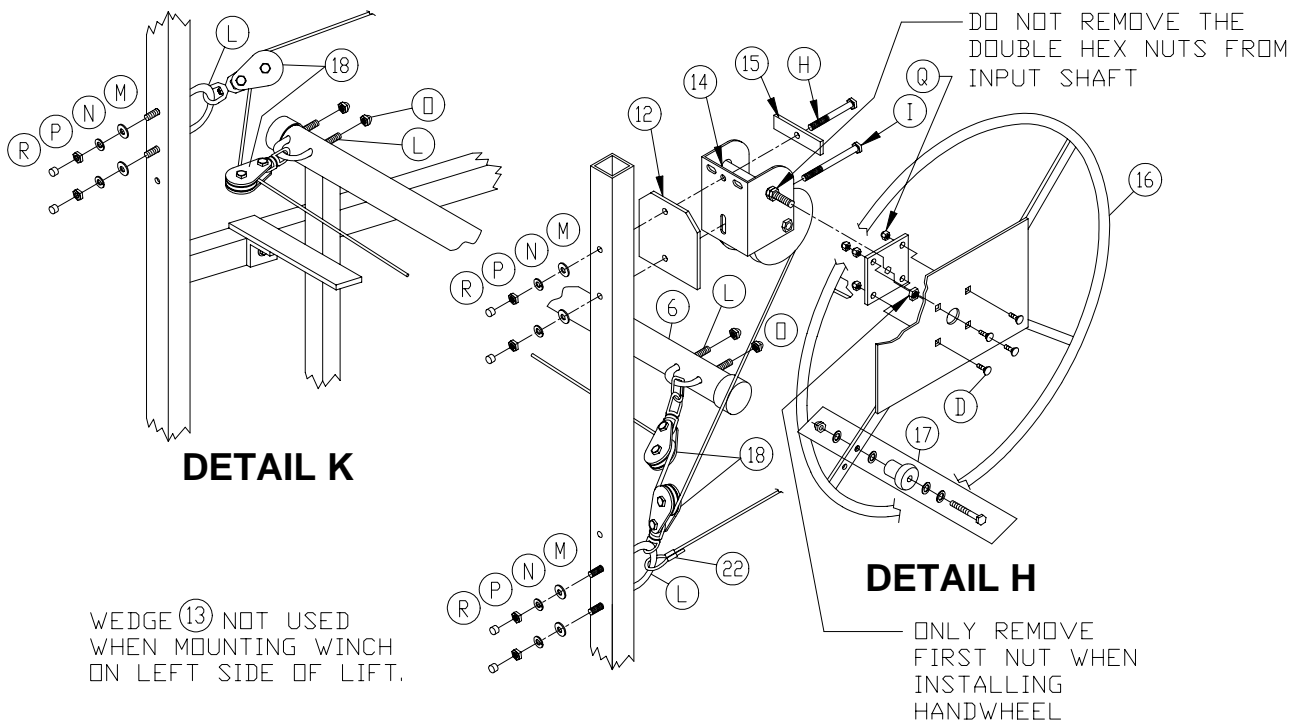
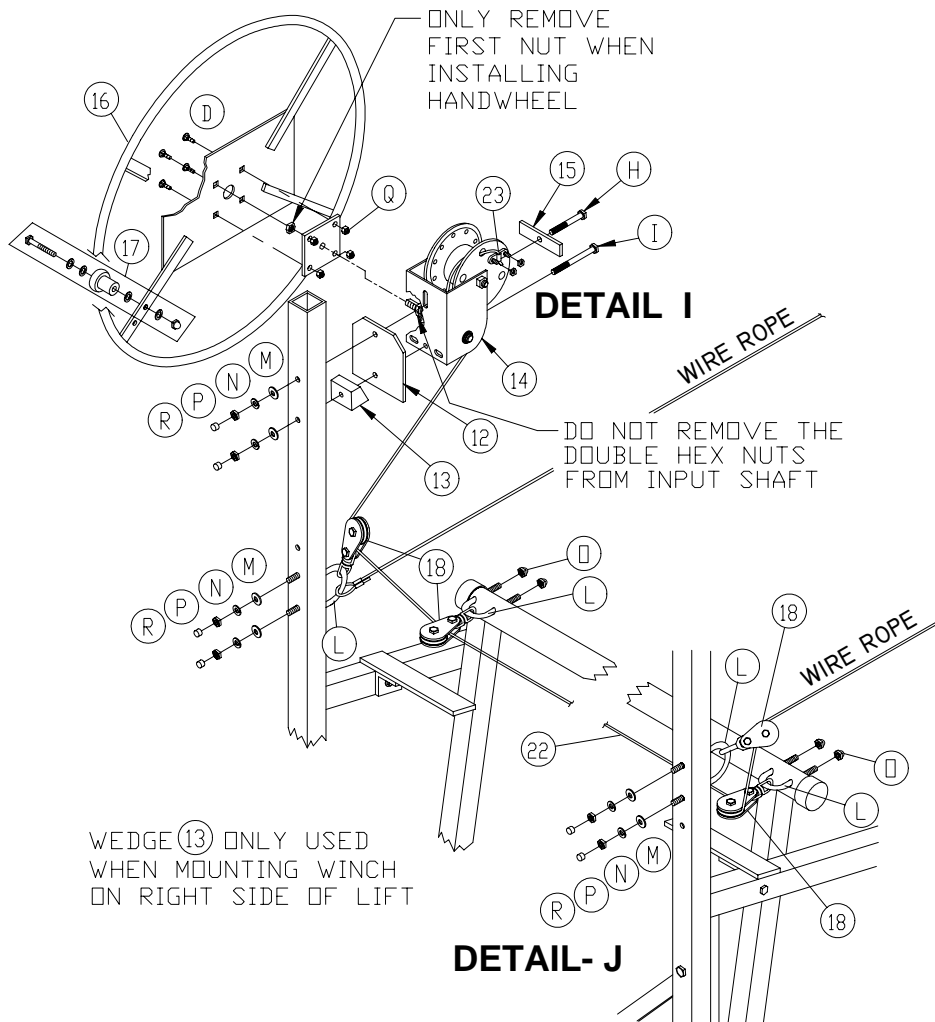
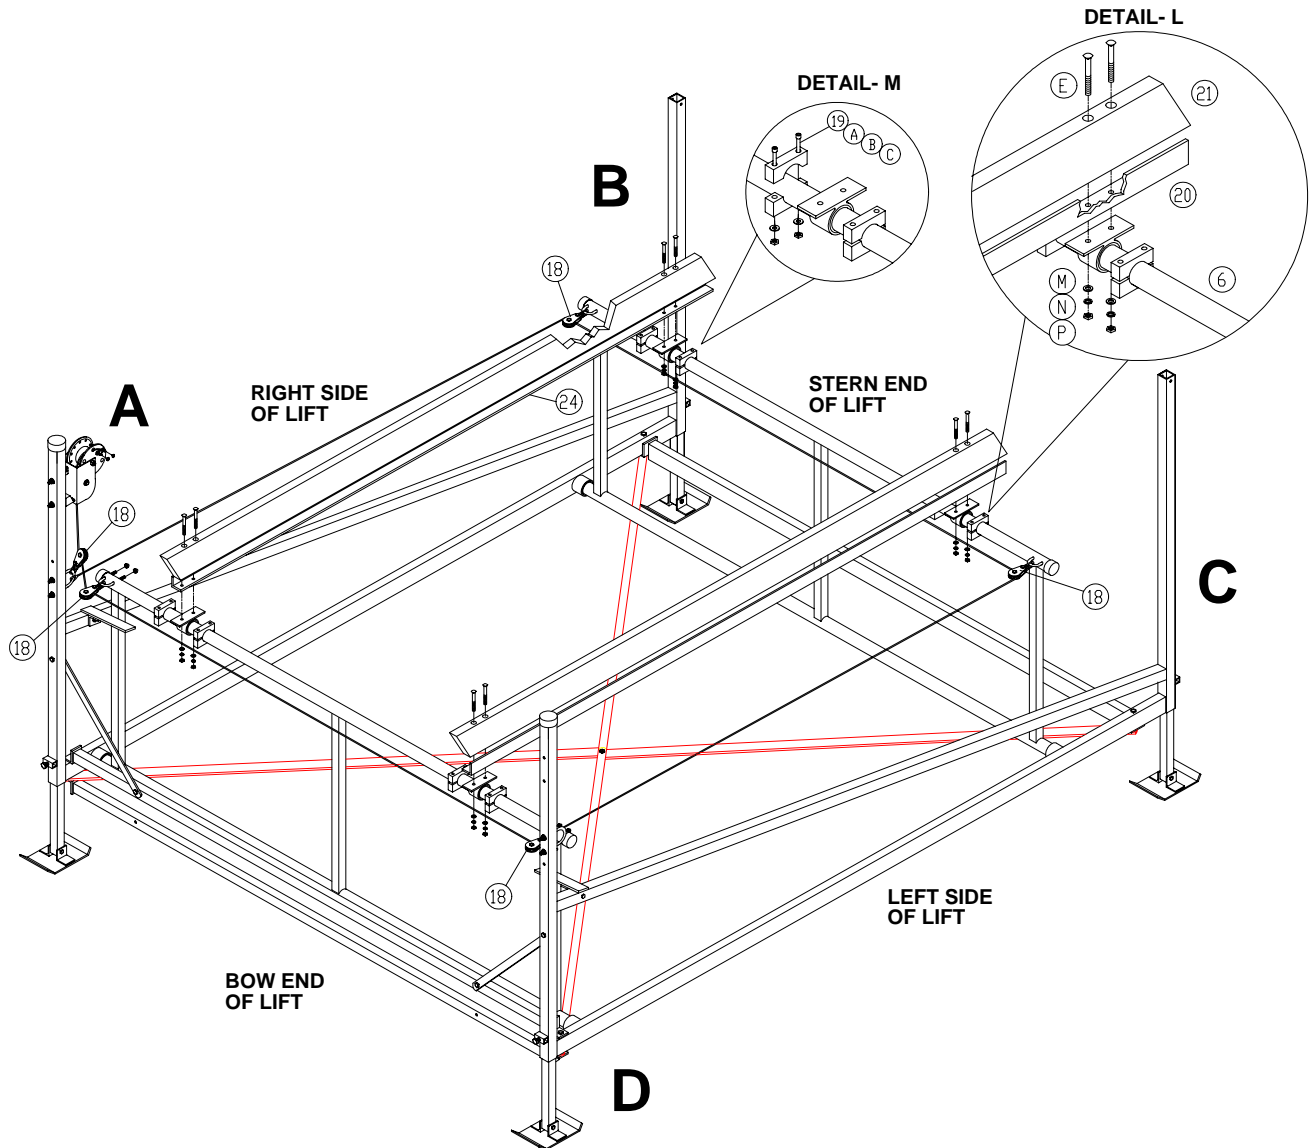

Figure 3-3.
Figure 3-4.
Figure 3-5.
1. Making sure that input shaft is facing towards outside of lift, attach winch to bow end of left side frame assembly as shown in **Figure 3-3**.
1. Making sure that input shaft is facing towards outside of lift, attach winch to bow end of right side frame assembly as shown in **Figure 3-4**.
2. Refer to **Figure 3-3 Detail H and Figure 3-5**. Install polymer block on left-hand side assembly by inserting U-bolt through the swivel of the polymer block and loop end of wire rope attaching it to bow end corner **D** of the side assembly using the lower set of mounting holes.
3. Refer to **Figure 3-3 Detail K**. Install polymer block on right-hand side assembly by inserting U-bolt through the swivel of the polymer block attaching it to bow end corner **A** of the side assembly using the upper set of mounting holes.
4. Refer to **Figure 3-5**. Reeve wire rope through polymer blocks in the following order. Starting from bow corner **D**, proceed to stern corner **C**, then across to stern corner **B**, and ahead to bow corner **A**. At corner **A** reeve side assembly block first, then reeve lift arm block. Next return to bow corner **D**, reeving lift arm block then side frame block finishing at winch as shown in **Detail H of Figure 3-3**.
2. Refer to **Figure 3-4 Detail I and Figure 3-5**. Install polymer block on right-hand side assembly by inserting U-bolt through the swivel of the polymer block and loop end of wire rope attaching it to bow end corner **A** of the side assembly using the lower set of mounting holes.
3. Refer to **Figure 3-4 Detail J**. Install polymer block on left-hand side assembly by inserting U-bolt through the swivel of the polymer block attaching it to bow end corner **D** of the side assembly using the upper set of mounting holes.
4. Refer to **Figure 3-5**. Reeve wire rope through polymer blocks in the following order. Starting from bow corner **A**, proceed to stern corner **B**, then across to stern corner **C**, and ahead to bow corner **D**. At corner **D** reeve side assembly block first, then reeve lift arm block. Next return to bow corner **A**, reeving lift arm block then side frame block finishing at winch as shown in **Figure 3-4. Detail I**.
1. Refer to **Figure 3-4**. Install the wire rope clamp, outside the drum flange as shown in **Detail I**. Do not tighten at this time.
2. Refer to **Figure 3-3**. Feed the wire rope over the back side of the drum, through hole in drum flange and under the wire rope clamp with one inch extending past the clamp as shown in **Detail I of Figure 3-4**. Tighten nuts on clamp to hold wire rope in place.
2. Refer to **Figure 3-4**. Feed the wire rope into the winch between winch frame and front side of drum. Continue reeving wire rope over drum, through hole in drum flange and under the wire rope clamp with one inch extending past the clamp as shown in **Detail I**. Tighten nuts on clamp to hold wire rope in place.
2. Refer to **Figure 3-5**. Set distance of each pivot bunk mounting bracket a minimum of 10" from center of bow and stern lifting arm. Then mount a pair of half round clamps, approximately 2" away from each side of pivot bunk mounting bracket as shown in **Detail M**. When fastening the clamps together, use clamp with pressed in hex nuts as bottom clamp. Fine adjust bunks to fit the hull of your boat as needed.